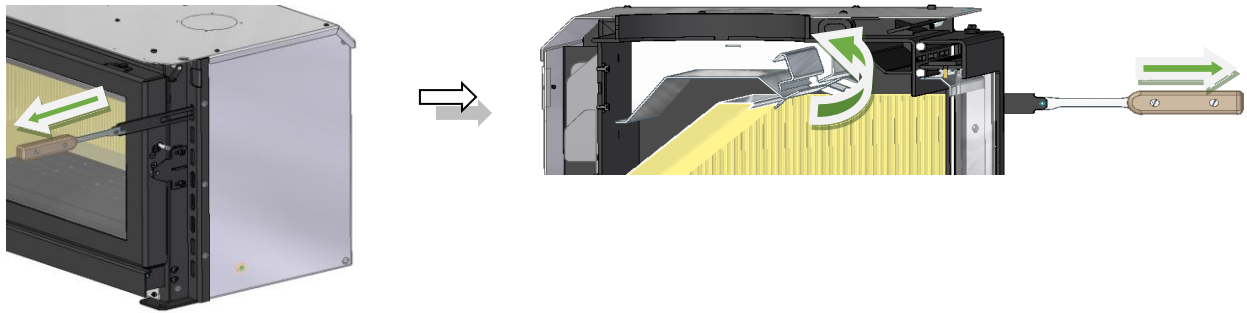
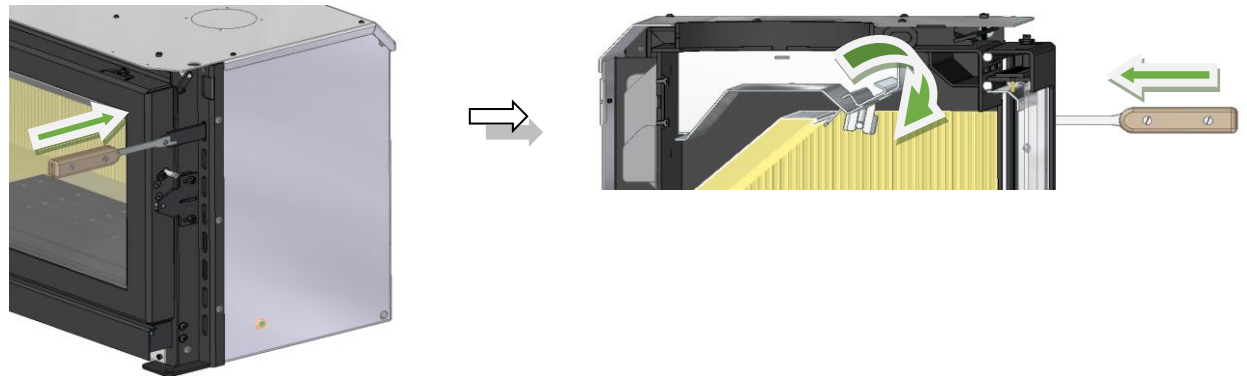

Figure 31 – Opening of the smoke flap
Figure 32 – Smoke flap closure
It controls the passage/exit of smoke when opening the door, that is, when the appliance is in operation and you want to refill it with more firewood, before opening the door, pull the handle towards you. This will allow a greater and easier passage of smoke through the chimney neck, avoiding the return of smoke from the unit into the surrounding room, see Figure 31 and Figure 32.
4. Open the primary combustion air intake control, leave the door ajar to make lighting quicker and open the smoke flap, see Figure 31;